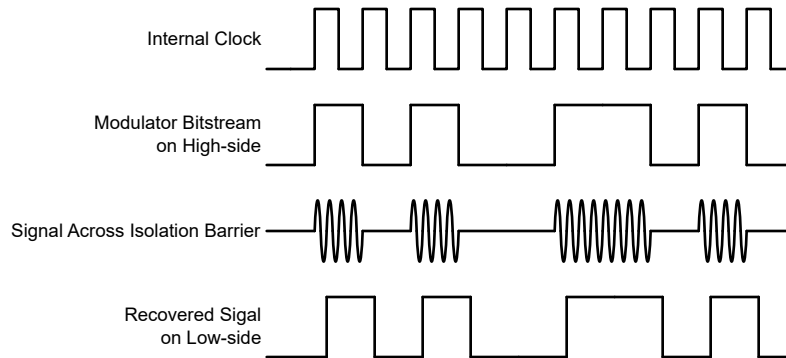

Figure 7-1. OOK-Based Modulation Scheme
The AMC1211-Q1 uses an on-off keying (OOK) modulation scheme, as shown in Figure 7-1, to transmit the modulator output bitstream across the SiO₂-based isolation barrier. The transmit driver (TX) shown in the Functional Block Diagram transmits an internally-generated, high-frequency carrier across the isolation barrier to represent a digital *one* and does not send a signal to represent a digital *zero*. The nominal frequency of the carrier used inside the AMC1211-Q1 is 480 MHz.